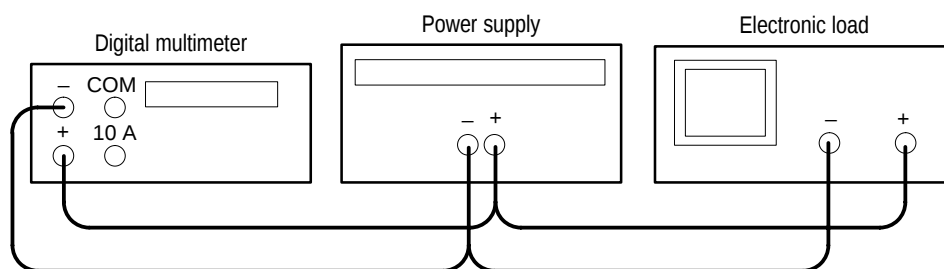

Figure 3: Constant Voltage Source Test Setup
2. Ensure that the power supply output is disabled. Connect the DMM and electronic load to the front panel OUTPUT 1 terminals. See Figure 3 for details.
11. Ensure that the power supply output is disabled. Remove the leads from the front panel OUTPUT 1 terminals and connect them to the front panel OUTPUT 2 terminals. Maintain the equipment configuration and polarities shown in Figure 3.
2. Ensure that the power supply output is disabled. Connect the DMM and electronic load to the front panel OUTPUT 2 (+) and OUTPUT 1 (–) terminals. Maintain the equipment configuration and polarities shown in Figure 3.
2. Ensure that the power supply output is disabled. Connect the DMM and electronic load to the front panel OUTPUT 2 terminals. Maintain the equipment configuration and polarities shown in Figure 3.
2. Ensure that the power supply output is disabled. Connect the DMM and electronic load to the front panel OUTPUT 3 terminals. Maintain the equipment configuration and polarities shown in Figure 3.